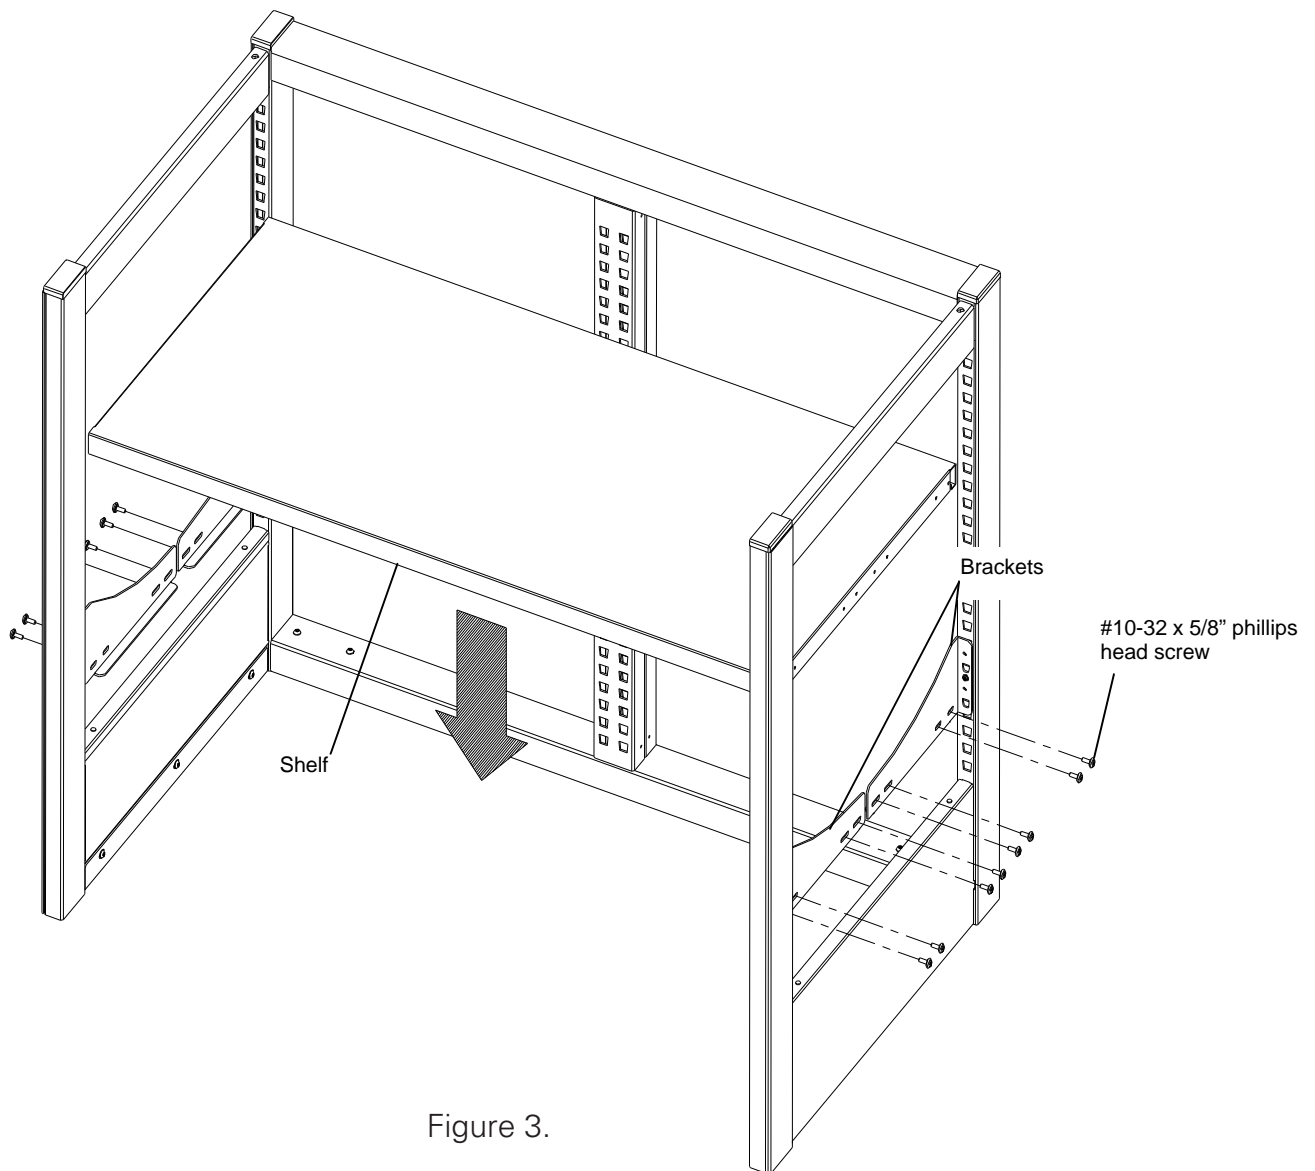

Figure 3.
3. Lower the Full Shelf onto the Brackets and align the holes in the sides of the shelf with the slots in the Brackets. Fasten the shelf to the Brackets using eight #10-32 x 5/8" phillips head screws (provided) on each side. See figure 3.